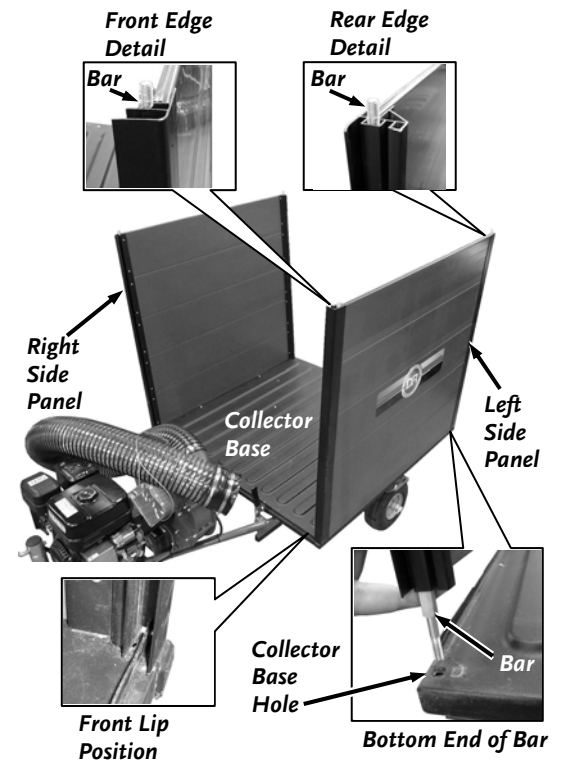

Figure 8
**NOTE:** The Side Panel Assemblies must be installed with the correct edges facing front and rear (**Figure 8**).